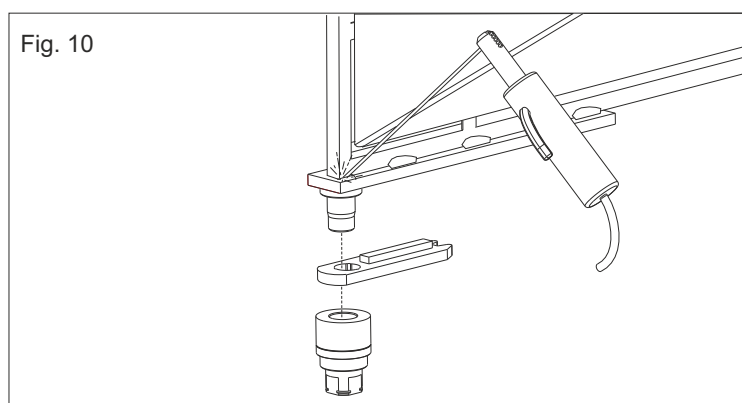

Fig. 10
**3.2.** Weld with care the leaf device to the leaf of the gate realizing a tract fixation of ca. 3-4 cm along the surface of the contact, avoiding the welding next to the threaded holes, furthermore it is necessary to respect the perpendicularity to the axe of rotation (Fig. 10)